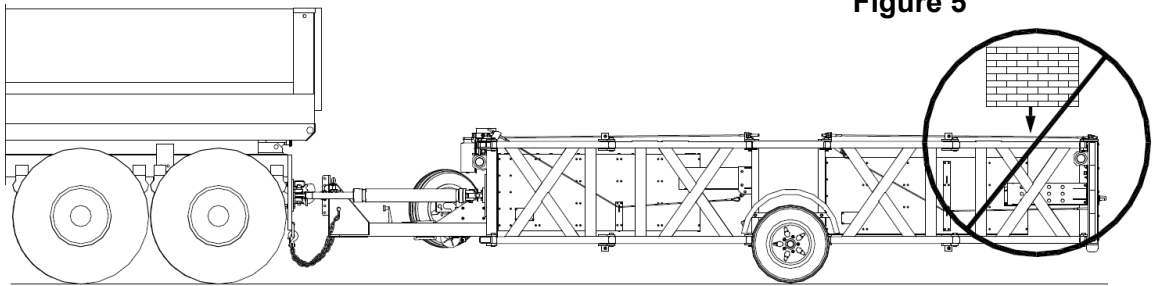

Figure 6
- The SST® is designed to absorb a crash and to support its own weight if impacted within the applicable NCHRP Report 350 criteria. Do not drag the TMA or place anything on its top: damage may result (Figures 6 and 7).